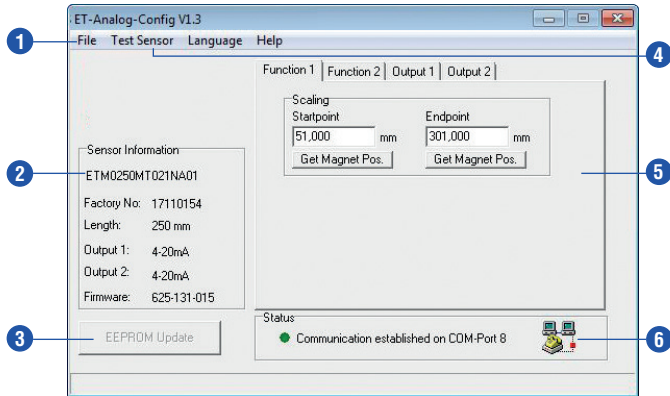

Fig. 33: Temposonics ET-Analog-Config V1.3, Function 1
After starting the program, the user interface of the connected sensor with its adjustable parameters will open (Fig. 33).
- 1 In the **File** menu the sensor configuration can be saved on hard disk, printed out or loaded into the sensor³. Moreover, this menu permits returning to the factory setting (Fig. 33).
- 2 **Sensor Information** contains the invariable sensor parameters, which were read in automatically when connecting the sensor. (Fig. 33).
- 3 Any changes which were made are shown with dark background. By clicking on **EEPROM Update** the altered parameters are stored in the sensor permanently. Subsequently, the stored values are displayed again with a white background (Fig. 33).
- 5 The control tabs of the main display section permit allocation of functions to the sensor outputs. The measuring range of the functions will be determined in **Scaling** (Fig. 33).
- 6 **Status** indicates that the sensor is connected successfully (Fig. 33).